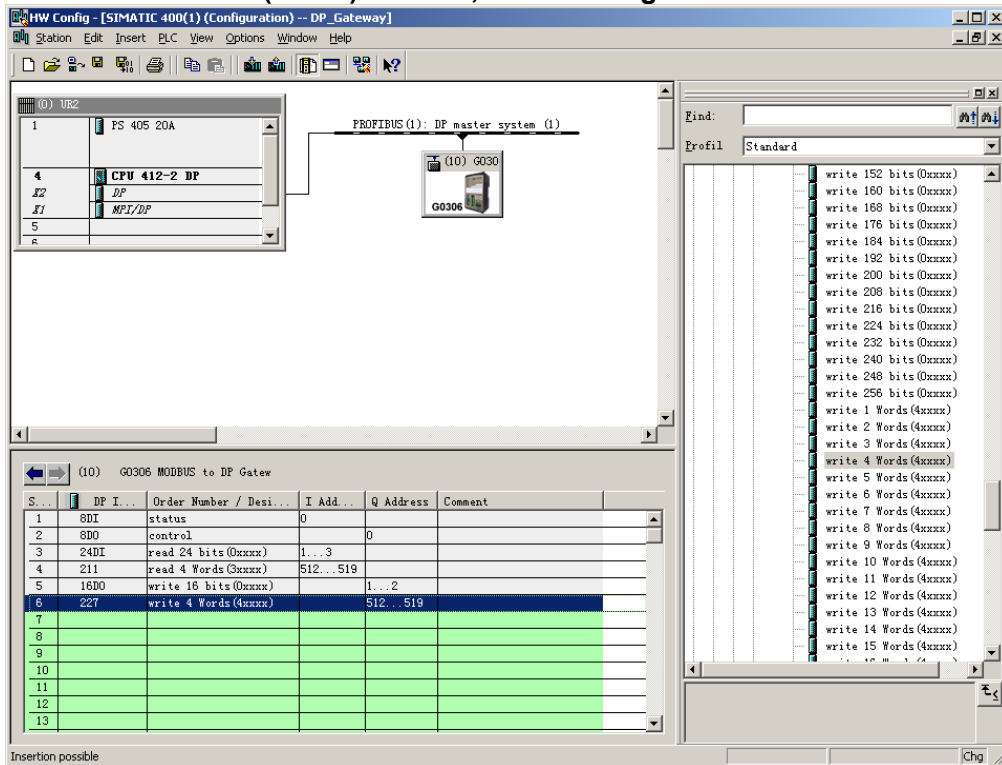

Figure 25 Add "write 4 Words(4xxxx)"Module
a) Add "write 4 Words(4xxxx)"Module, shown in Figure 25: